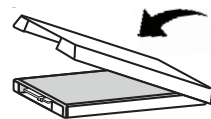

Figure 4. Press down on the cover to secure it.
- c. Replace the cover and secure it by pressing down firmly so that the tabs snap back into place (see Figure 4).